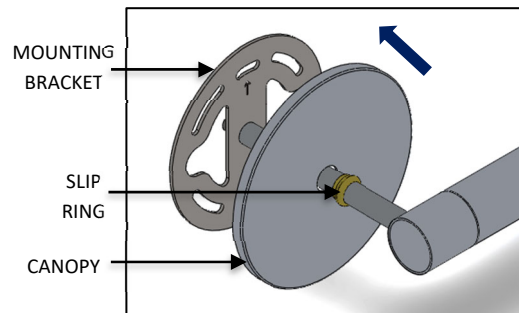

FIG. 15 – CANOPY PLATE ASSEMBLY
5. Slide the canopies and slip rings down the arms until tight against the wall. Tighten slip ring set screws to hold them in place as shown in FIG.15.